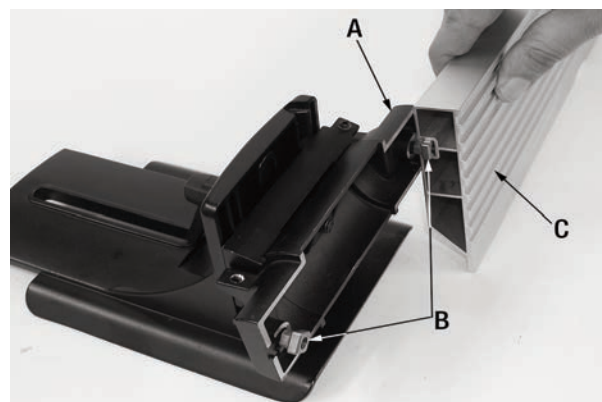
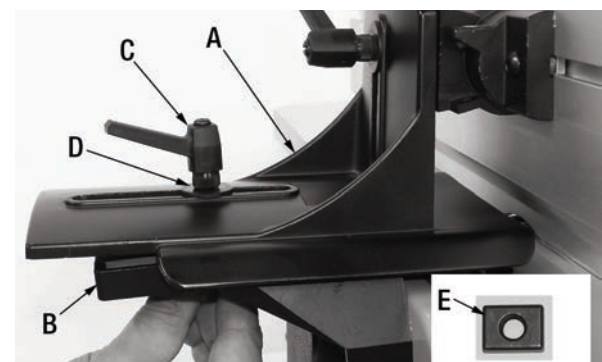

FIGURE 5
FIGURE 6
- 2) Fit two round head allen screws through the holes in the fence mounting bracket (A) Fig.5 and loosely thread a square nut (B) onto the end of each round head allen screw.
- 3) Slide the t-slot in the rear of the fence (C) onto the square nuts (B).
- 4) Center the fence (C) on the mounting bracket (A) and secure it by tightening the 2 round head allen screws.
- 5) Sit the fence bracket (A) Fig.6 on the support arm (B). Slip the threaded end of the fence lock handle (C), with flat washer (D), through the bracket and support arm. Thread a square nut (E), flat end up, onto the threaded end of the lock handle and tighten the lock handle to secure the fence assembly to the support arm.